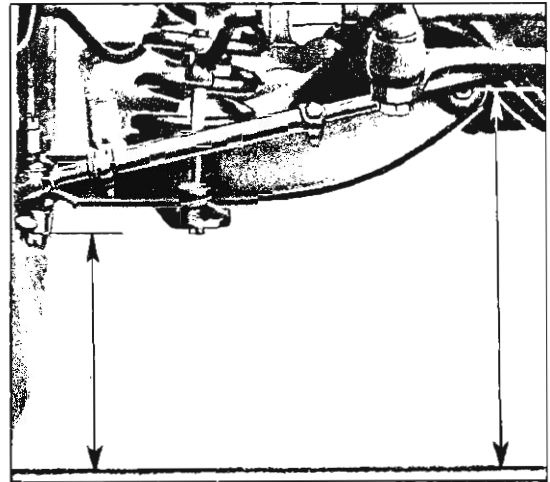

Fig. 1—Checking Riding Height
5. Front riding heights. (See Figure 1)
3. Measure the distance from the floor to the center of the front inner pivot of lower control arm (fig. 1). Record this measurement.